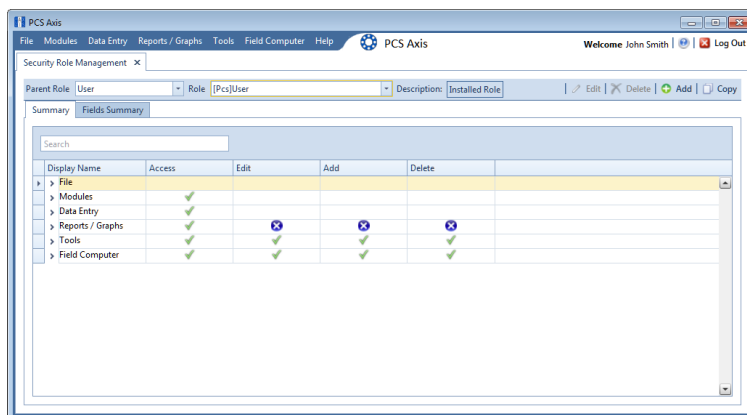

Figure 3-16. Security Role Management
- 1 Click **Tools > Security Role Management** to open the *Security Role Management* window (Figure 3-16).
- 1 If the *Security Role Management* window is not open, click **Tools > Security Role Management** (Figure 3-16, page 59).
- 1** If the *Security Role Management* window is not open, click **Tools > Security Role Management** (Figure 3-16, page 59).